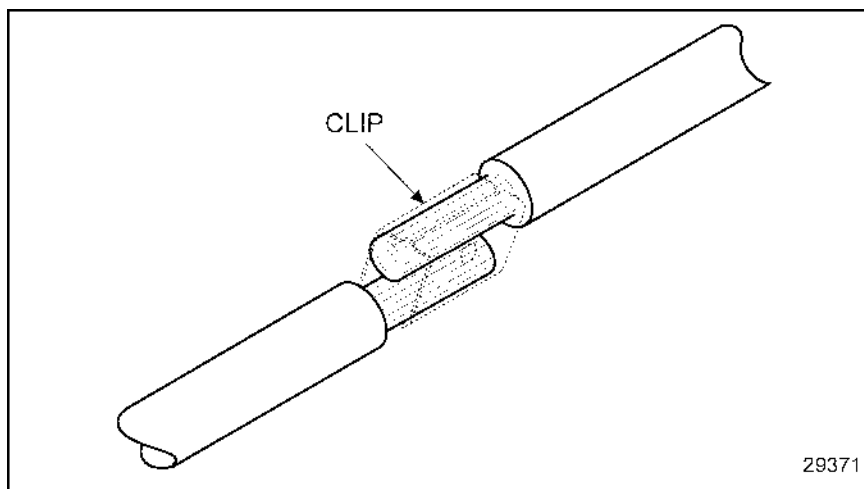

Figure 3-52 **Securing the Leads With a Clip**
2. Secure the leads with a commercially available clip and hand tool. See Figure 3-52.